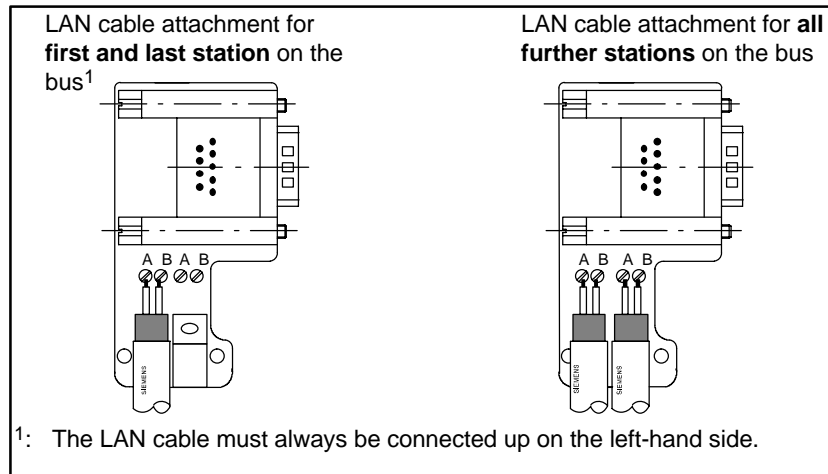

Figure 4-17 Connecting the LAN Cable to the Bus Connector (6ES7 972-0B.11 ...)
- Insert the green and red cores in the screw terminal as shown in Figure 4-17. Make sure that you always connect the same cores to the same terminal A or B (for example terminal A is always connected to green and terminal B always to red).